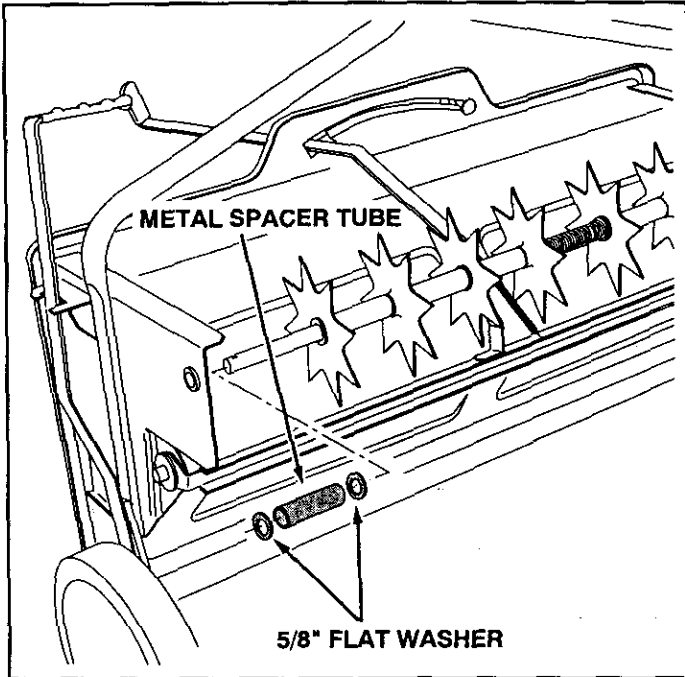

FIGURE 20
- Place two 5/8" flat washers separated by a metal spacer tube onto the shaft. See figure 20.